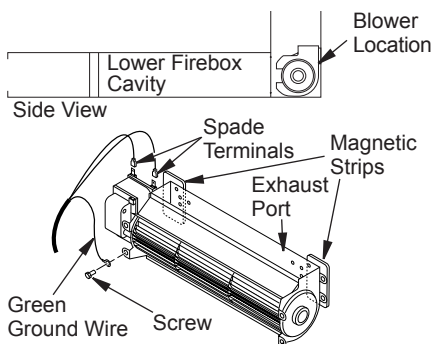

Figure 25 - Blower Model BK
1. Attach the power cord to blower motor by firmly pushing two female terminals at end of power cord onto two spade terminals on blower motor (see Figure 25).
2. Attach green ground wire from power cord to blower housing using screw provided (see Figure 25). Tighten screws securely.
3. Place blower against lower rear wall of firebox outer wrapper with exhaust port directed upward. The blower will fit inside back opening and be held in position against back wall by magnets (see Figure 25).